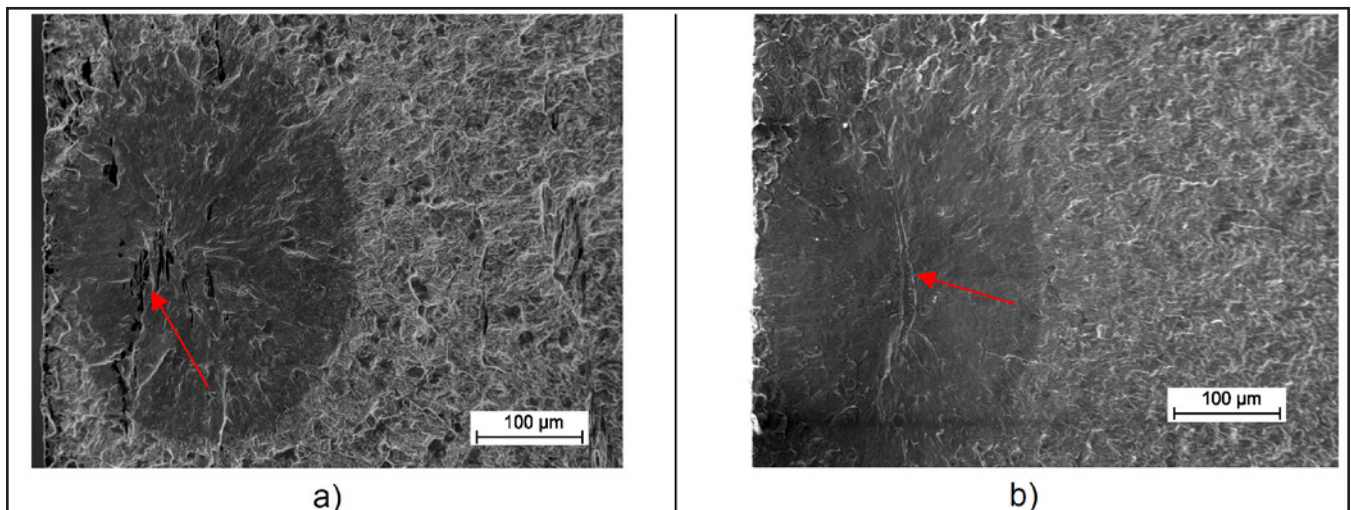

Figure 14 Exemplary a) stringer (variant S4) and b) oblong (variant S8) manganese sulfide inclusion in a fish-eye fracture surface.
crack area characteristic was hereby as typical for surface cracks. No fish-eye nor nonmetallic inclusion were present in this case. All tooth root fractures from below the surface showed the typical fish-eye characteristic (Fig. 14). The cracks were initiated in all cases at manganese sulfide inclusions. Minor elements of the manganese sulfide inclusions were molybdenum (Mo), magnesium (Mg), aluminum (Al), oxygen (O), and calcium (Ca). The inclusions were either stringer inclusions or oblong shaped.